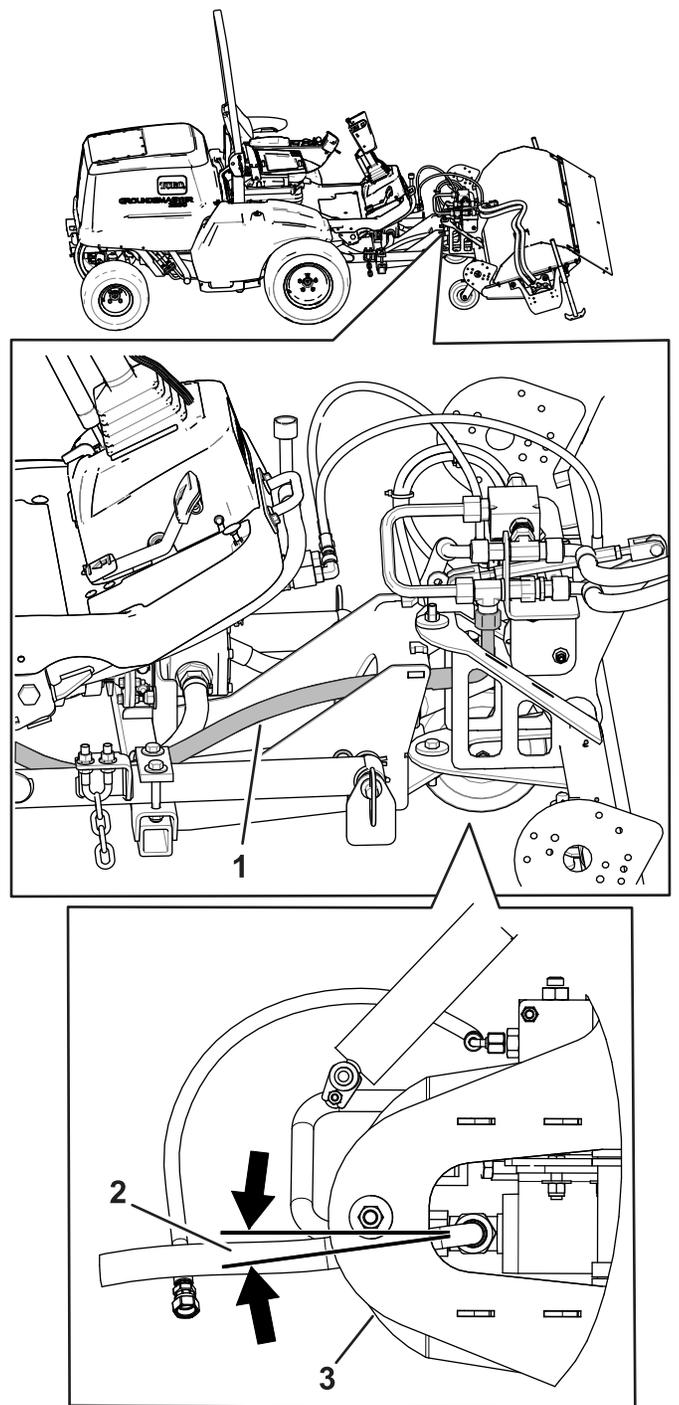

Figure 18
7. Install the side hydraulic hose to the broom (Figure 18).
Note: Install the hose at the angle shown in Figure 18.